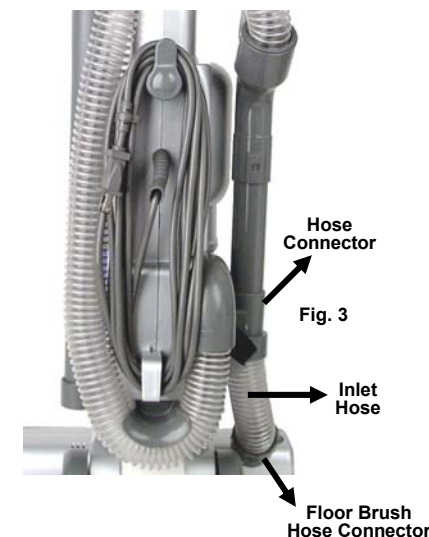

Fig. 3
- Insert the inlet hose into the floor brush hose connector that is on the floor brush. (Fig. 3)
- Hold the end of the removable hose handle and insert it into the hose connector. (Fig. 3).